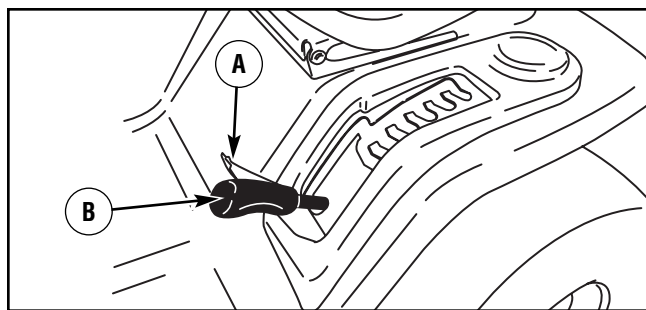

Figure 32: Deck lift lever
3. Open the deck level position cover, and move the **deck lift lever** to the level adjustment position (Figure 32).